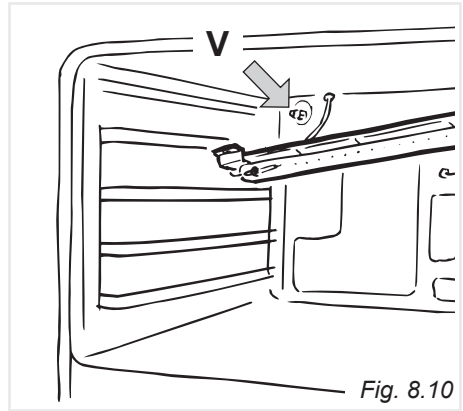

Fig. 8.10
- Move the burner in the manner shown in figure 8.10. Take care not to damage the wire to the ignition electrode and the safety valve probe.
- Using a 10 mm box spanner, unscrew the injector (indicated by the arrow in fig. 8.10) and replace with a new injector selected in accordance with the “Table for the choice of the injectors”; then replace the burner repeating the above steps in reverse order.